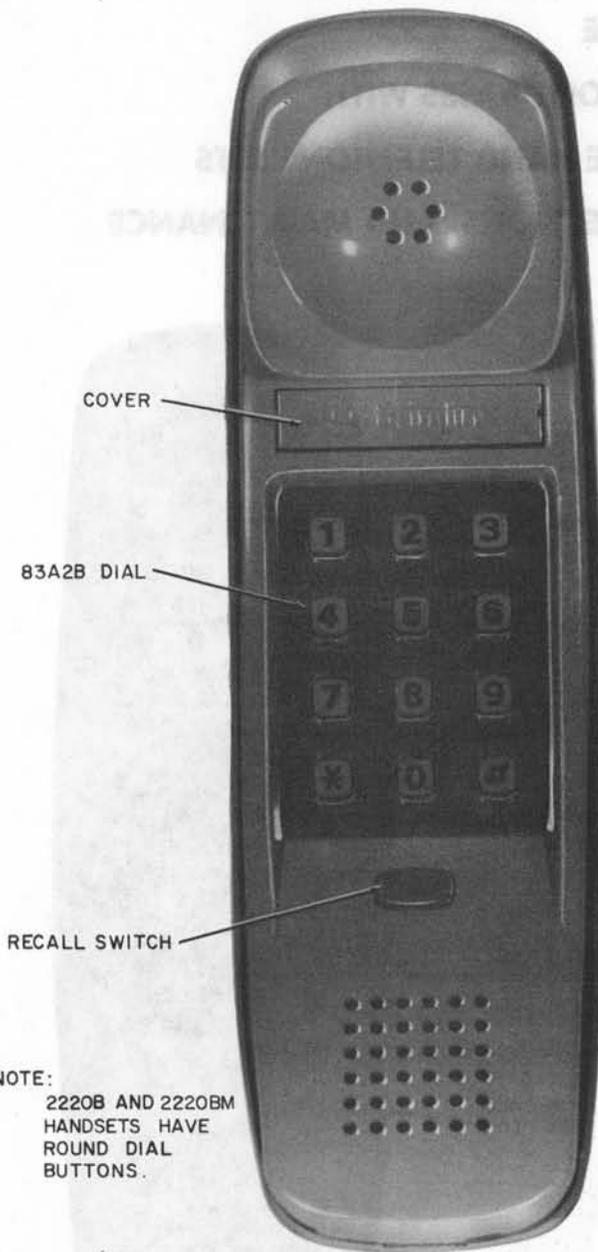

Fig. 2—2220C Hand Telephone Set
- Cover (Fig. 2, 3 and Table B)